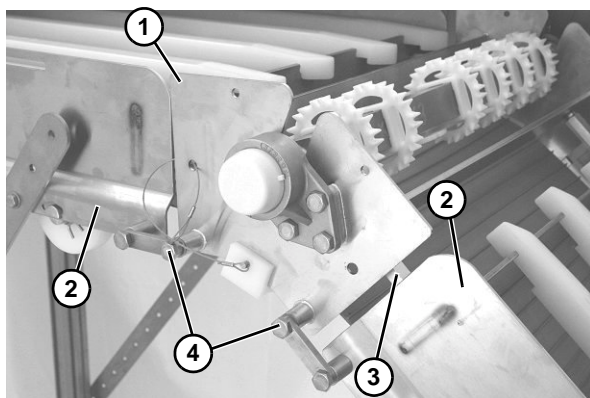

Figure 13
- Attach upper knuckle (Figure 13, item 1) to frame (Figure 13, item 2) with hex rods (Figure 13, item 3) and bolts (Figure 13, item 4).